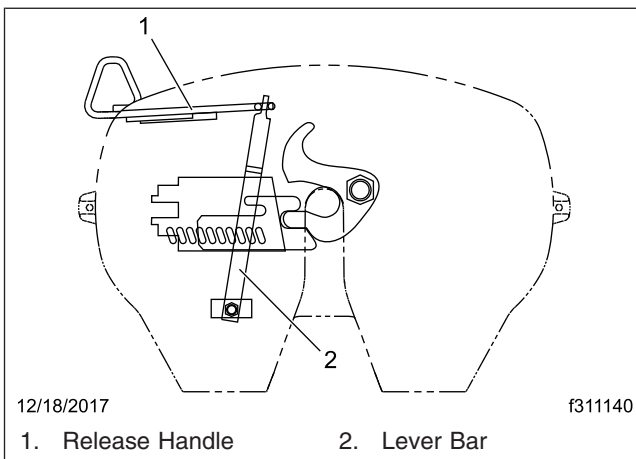

Fig. 2, Lever Bar and Release Handle Alignment
- The lever bar and release handle must be in proper alignment. See Fig. 2. Compare the lever bar and release handle alignment to a new, or a properly operating lever bar and release handle. Replace any bent or misaligned lever bar or release handle.